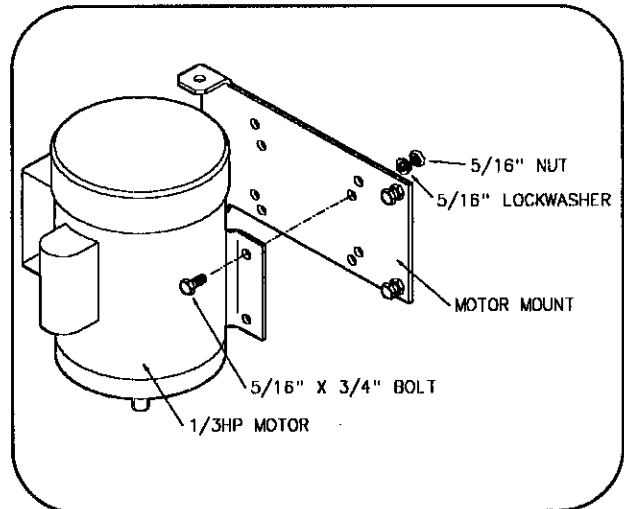

Figure 17
3. Remove belt guard from winch assembly. Attach motor mount assembly to the winch frame as shown in Figure 17 using 5/16-inch carriage bolts supplied in hardware bag.
5. Install belt onto the two (2) pulleys and check the belt alignment.